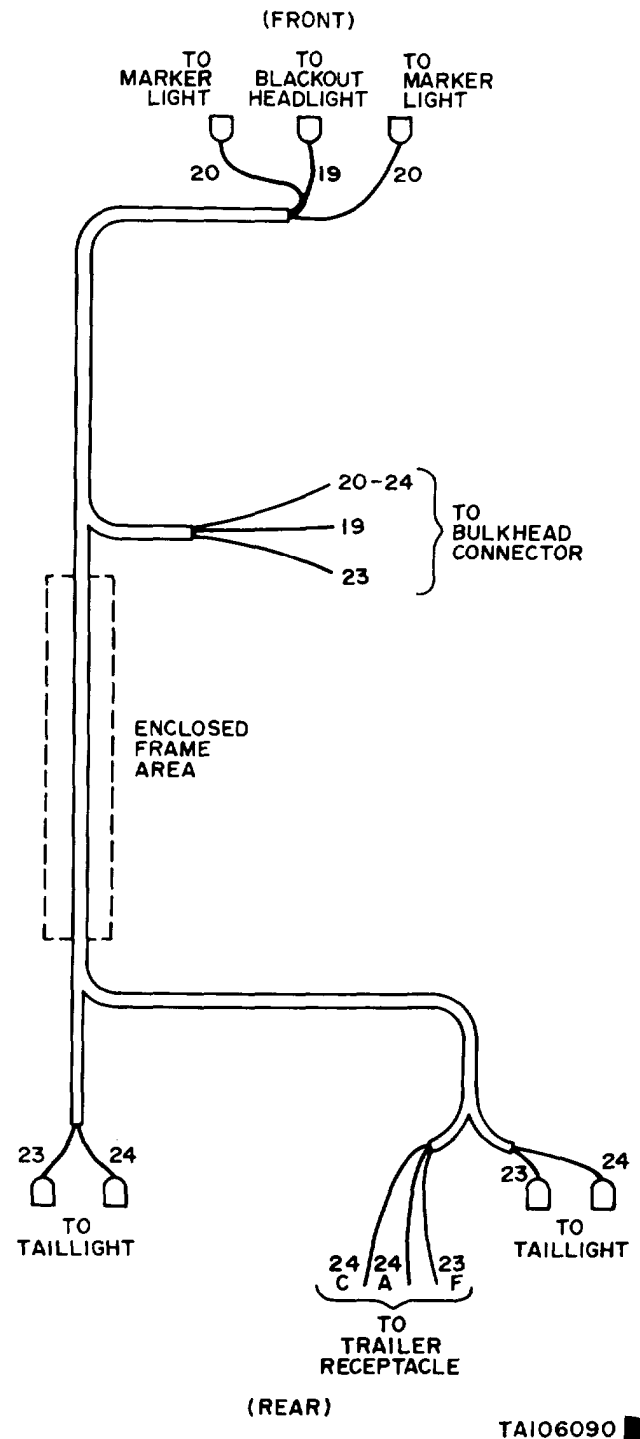

Figure 25-8. Main Wiring Harness.
(1) Route rearward portion of main harness 12258214 downward to the left side of steering column under the hood, retaining forward (shorter) end of harness in close proximity to bulkhead connector (figure 25-8).
- (2) From underneath vehicle, position harness so that it will follow the path of existing harness.
- (3) From the rear left side of vehicle, route a "fish tape" forward through main frame member until it exits forward in the area where harness was dropped.
- (4) After securing harness to fish tape and taping connectors around main cable for ease in routing cable rearward, pull harness rearward until it is accessible. Route harness along existing harness utilizing existing cable clamps where available.
- (5) Use self-clinching cable ties MS3367-1-9, to tie harness to existing harness near both taillight locations and in the area of the trailer connection.
- (6) Remove the four bolts and nuts which retain the trailer receptacle and drop connector to an accessible location. Remove grommet nut, slide grommet up wires far enough to solder new wires into pins.
- (7) Remove the three grommet rods from positions A, C, and F.
- (8) Insert the three corresponding wires 24A, 24C, and 23F of the new harness through grommet and solder into pins A, C, and F respectively. Replace grommet and grommet nut and remount trailer receptacle.
(18) Insert tail/stop light assembly mounting studs and connectors through holes drilled in steps (16) and (17).
(19) Fasten tail/stop light assemblies to fender sheet metal with two MS35649-282 hex nuts and two MS35335-31 lockwashers.
(20) Connect connectors of tail/stop light assemblies to main wiring harness connectors (figure 25-8).
(21) Reinstall vehicle taillights.
(22) Actuate all vehicle lighting controls and blackout lighting kit lighting controls to make sure installation functions properly.
(23) Touch up screw heads and other exposed bare metal with recommended paint.